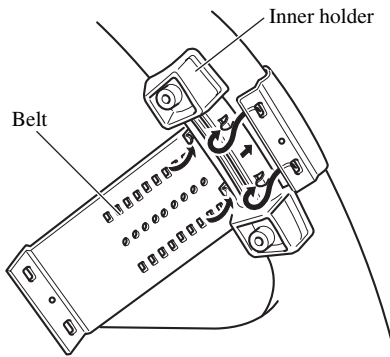

Fig. 7
1. Secure inner holder to the inner circumference of the steering wheel with belt. (Fig. 7)